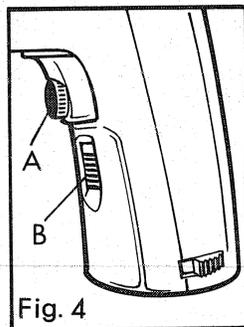

Fig. 4
To lock trigger in "ON" position when using accessories, depress trigger and push up locking button "B," Figure 4, then gently release trigger. To release locking mechanism, depress trigger fully, then release it.
**VARIABLE SPEED SWITCH (a)** For normal operation, rotate the Variable Speed Locking Button "A," Figure 4, clockwise until it stops. This permits "FREE HAND" speed control — the farther the trigger is depressed, the higher the R.P.M. **(b)** To set the trigger switch to produce a selected speed each time it is squeezed, first rotate the button clockwise until it stops. Fully depress trigger, and with the Drill running at highest R.P.M. push up switch locking button. Release trigger and the tool will stay "ON." Now, rotate the button counterclockwise and you will notice a decrease in R.P.M. Continue rotating button until desired speed is obtained. To turn Drill "OFF," squeeze trigger and release. **(c)** Use lower speeds for STARTING HOLES WITHOUT A CENTER PUNCH, DRILLING IN METAL OR PLASTICS, DRIVING SCREWS, DRILLING CERAMICS. Higher speeds are better for DRILLING WOOD AND COMPOSITION BOARDS, AND FOR USING ABRASIVE AND POLISHING ACCESSORIES.